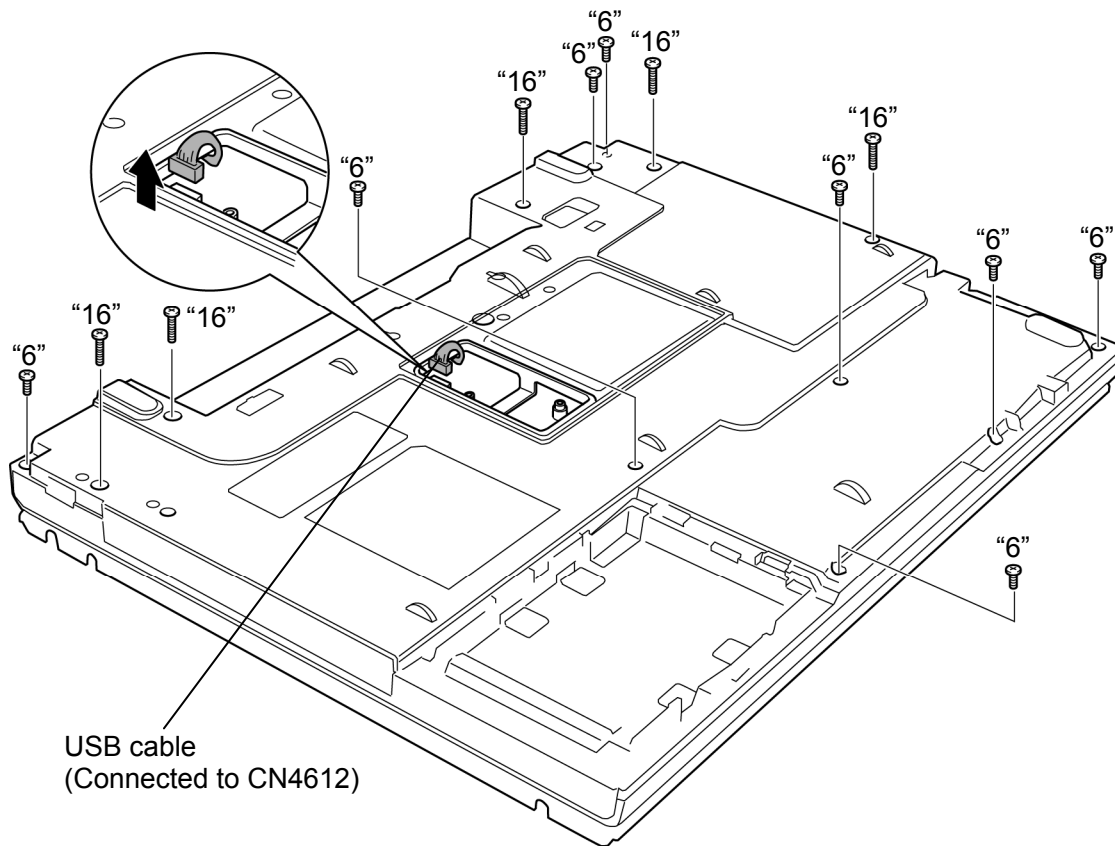

Figure 4-21 Removing the cover assembly and base assembly (1)
To remove the cover assembly and base assembly, follow the steps below and refer to Figure 4-21 and 4-22.
To install the cover assembly and base assembly, follow the steps below and refer to Figure 4-21 to 4-22.
- M2.5×6B FLAT HEAD screw ×8 (“6” in the figure 4-21)
- M2.5×16B FLAT HEAD screw ×5 (“16” in the figure 4-21)